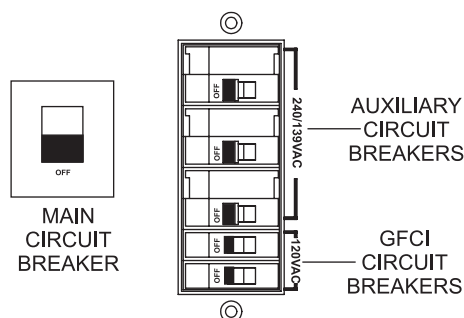

Figure 57. Main, Auxiliary, And GFCI Circuit Breakers (OFF)
2. Place the **main, auxiliary, and GFCI** circuit breakers (Figure 57) in the **OFF** position.
2. Place the **main, auxiliary, and GFCI circuit breakers** in the **OFF** position as shown in Figure 57.